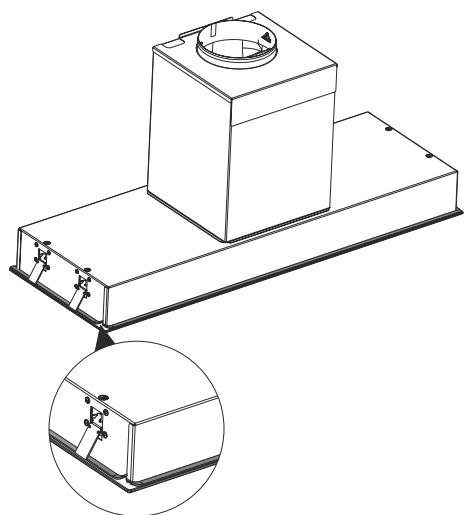

Fig. 15
3. → Attach the insulation foam supplied with mounting accessories to all edges of the product.(Fig. 15)